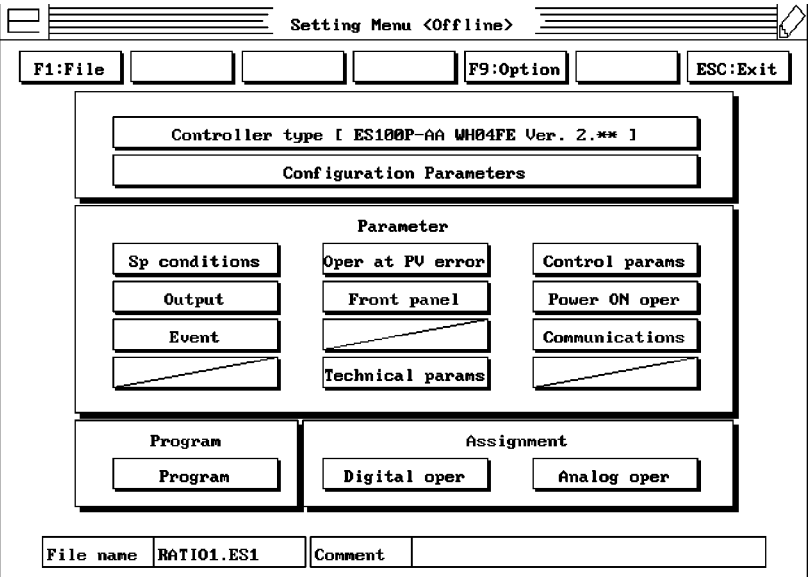

Figure 9
- 1. From the **Setting menu <offline>** menu, select **Analog Oper** (Figure 9).